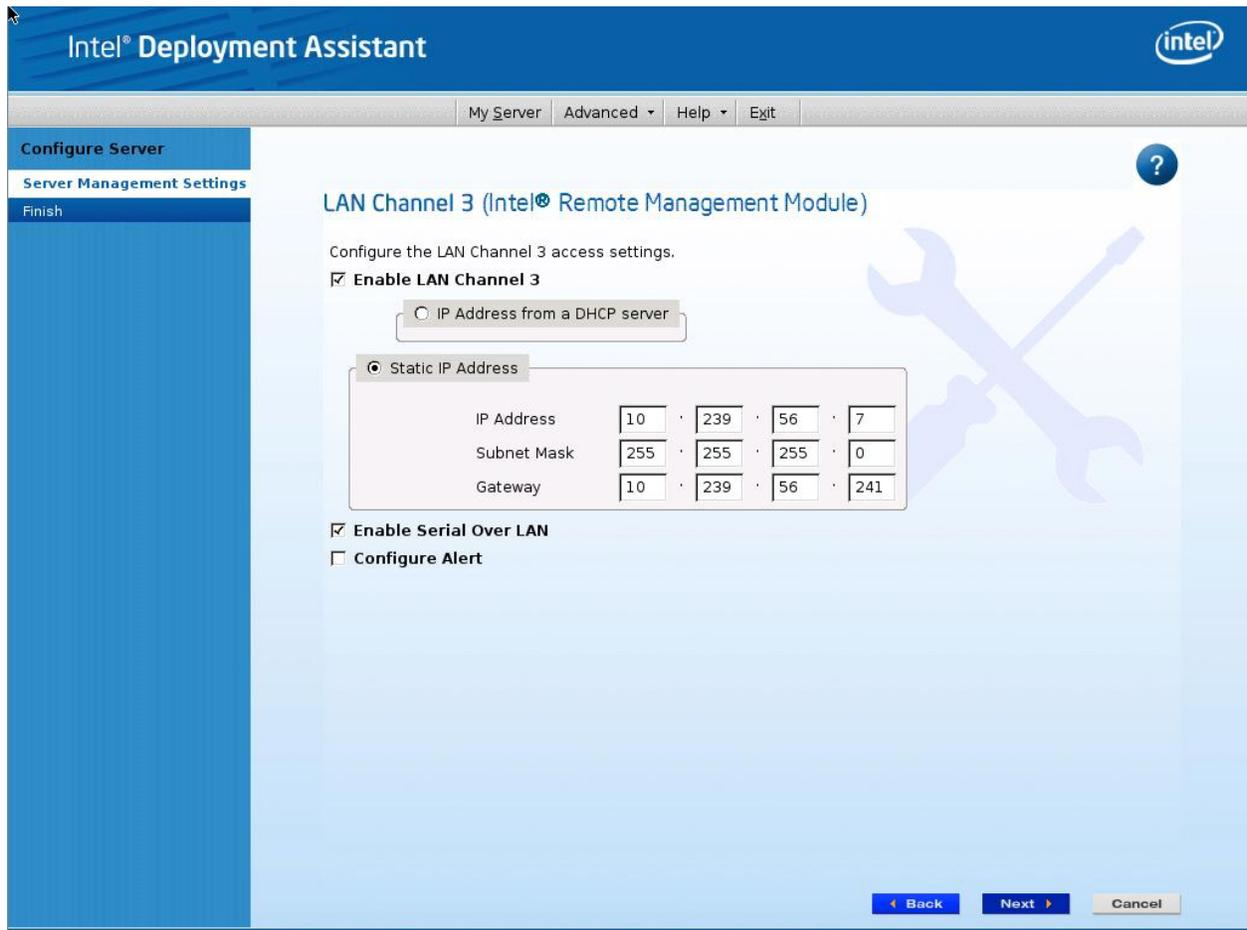

Figure 19: IDA Configure Server: Configure LAN Channel 3 (Intel® RMM4 DMN) Static IP Address window
- b. If **Static IP Address** is selected configure the **IP address**, **Subnet Mask** and **Gateway** as shown in Figure 19.